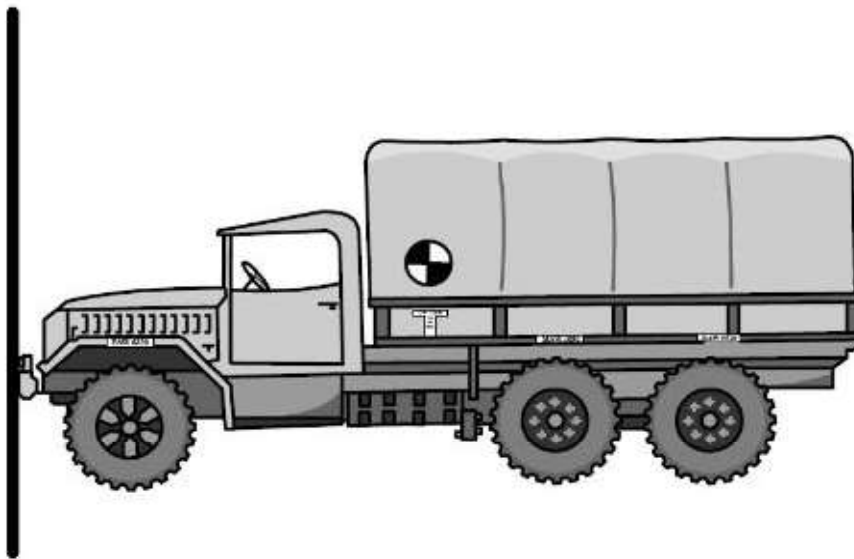

Figure 2-30 — Reference line.
- Reference line (RL) is a line from which all measurements are taken. Normally, the RL is established at the forward front edge of a vehicle, as shown in *Figure 2-30*. Once it has been established, do not change it.